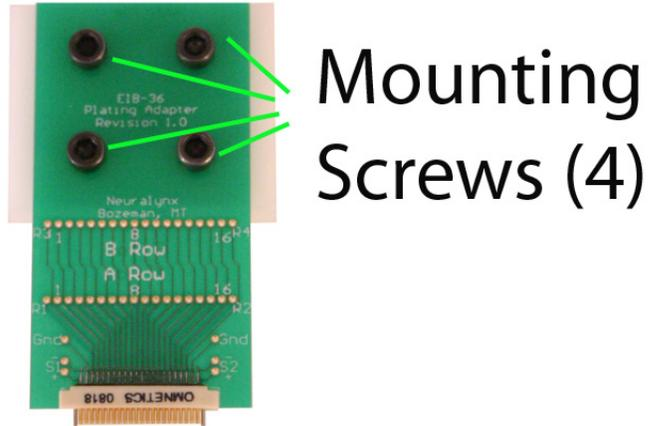

Figure 3-1 Mounting Screws (4)
| Figure 3-1 | Mounting Screws (4) | 4 |
The plating adapter is designed to be used with a stereotaxic holding rod. The Plating Adapter has four large holes arranged in a 0.5 in x 0.5 in square for securing a mounting block (figure 3-1) that holds a 0.312 inch diameter stereotaxic rod (not included).